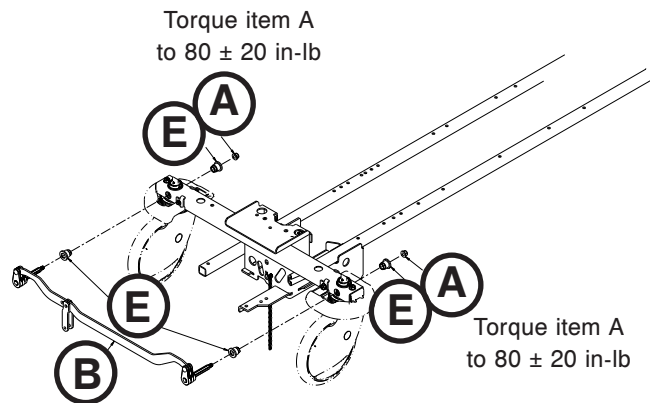

Figure 7
6. Using a 1/2" socket with a 3/8" drive extension and a 3/8" drive ratchet, remove the two flange nuts (A) (one on each side) that secure the foot end brake link assembly (B) to the casters (Figure 7).
9. Remove the foot end brake link assembly (B) by equally pulling outward on the foot end brake link assembly (B) (Figure 7 on page xx).
**Note:** When installing the new foot end brake link assembly (B), be sure to reinstall the bearing (E) which may have fallen off during the removal of the old foot end brake link assembly (B) (Figure 7 on page 33).